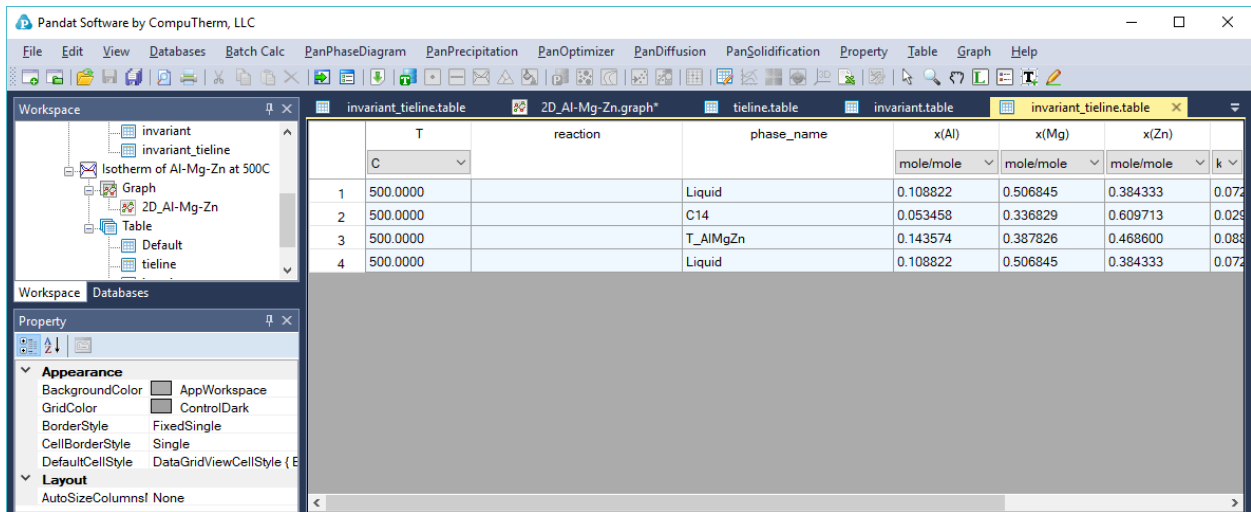

Figure 1.5.4: The invariant_tieline table showing the composition of each phase in the invariant reaction
- Three-phase equilibrium is shown by the tie-triangle. The composition of each phase in the three-phase equilibrium is listed in invariant_tieline table, as shown in Figure 1.5.4.